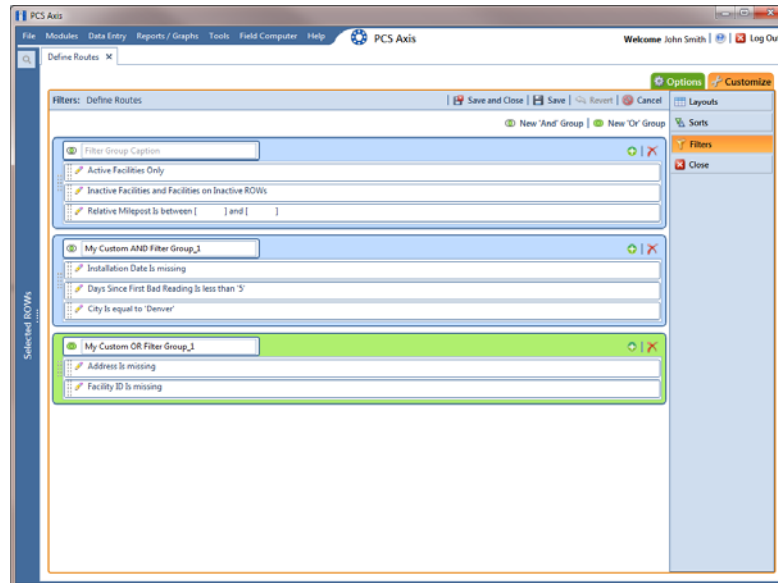

Figure 8-53. Filters
- 4 Click the edit icon  to display a filter's property settings (Figure 8-53).